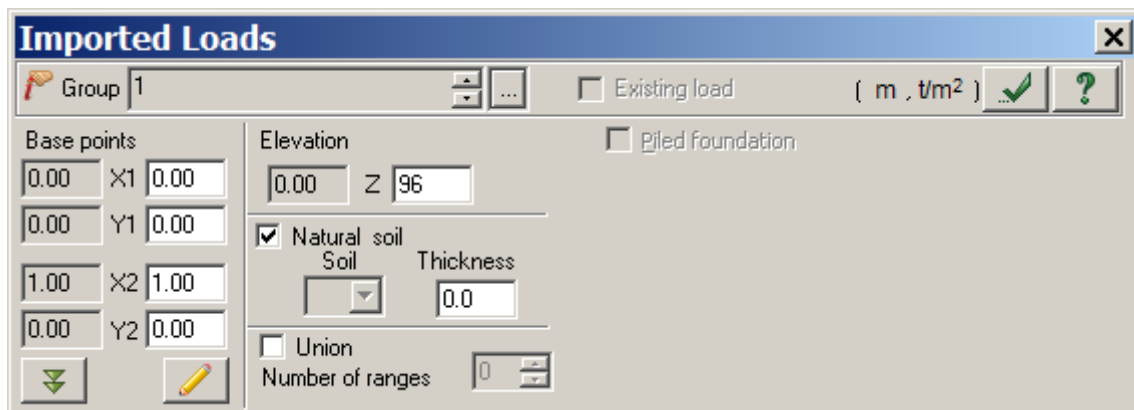

Figure 9.22 Imported loads dialog box
- ⇒ In the **Imported loads** dialog box (see Fig.9.22), define the elevation value as equal to Z = 96 m.